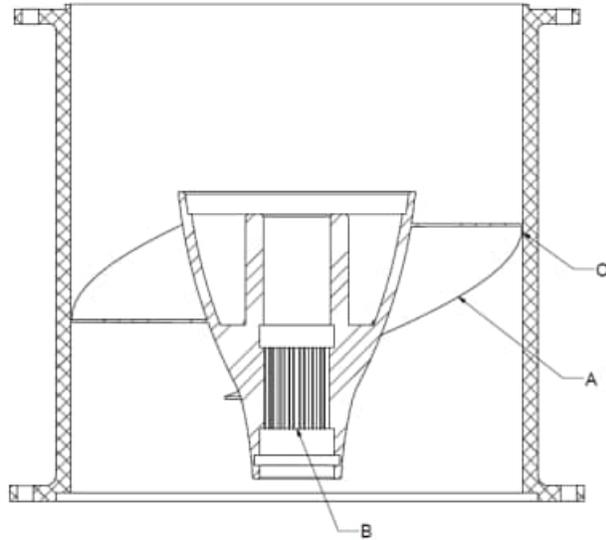

Figure 32: Impeller Inspection Points/Areas
- c. Install the shaft seal in the outlet side of the stator sleeve with the open side of the seal facing up (see Figure 32).